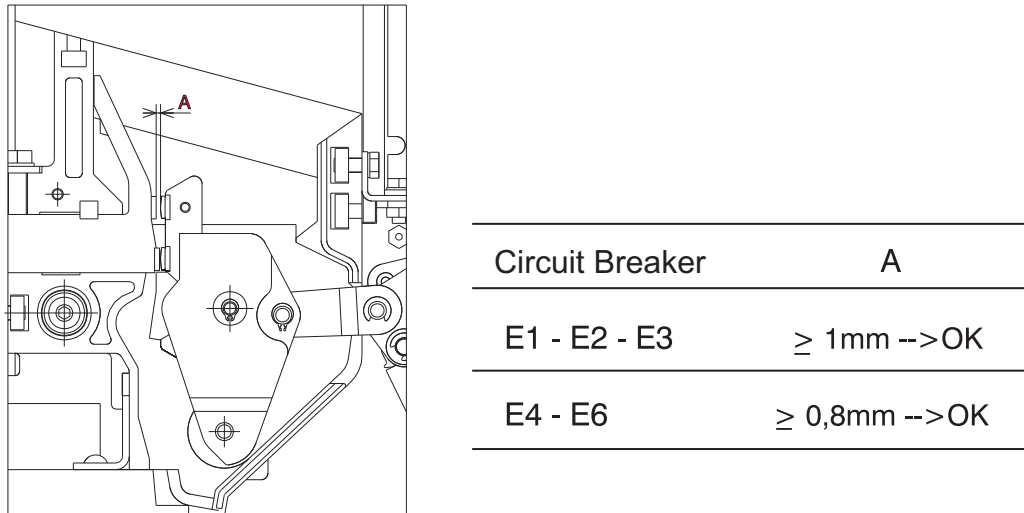

Fig. 45
6.1) Check the blowout magnets distances (distance A fig 45).